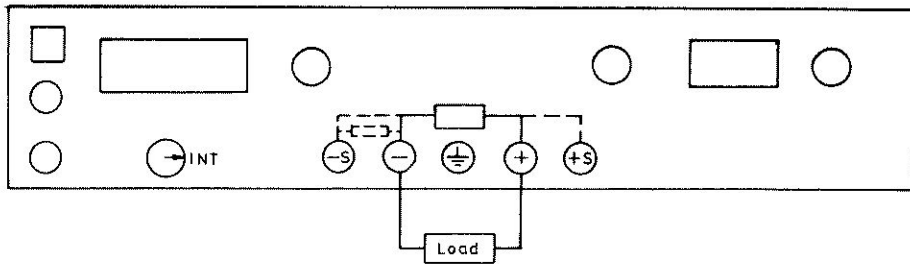

Figure 14
1. Connect as shown in figure 14.